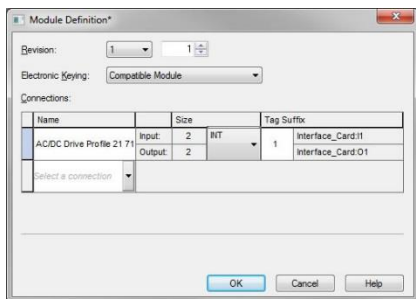

Figure 28: AOP AC/DC Drive Profile Module Definition
- 3) Configure the AC/DC Drive Profile connection. Refer to Figure 28.